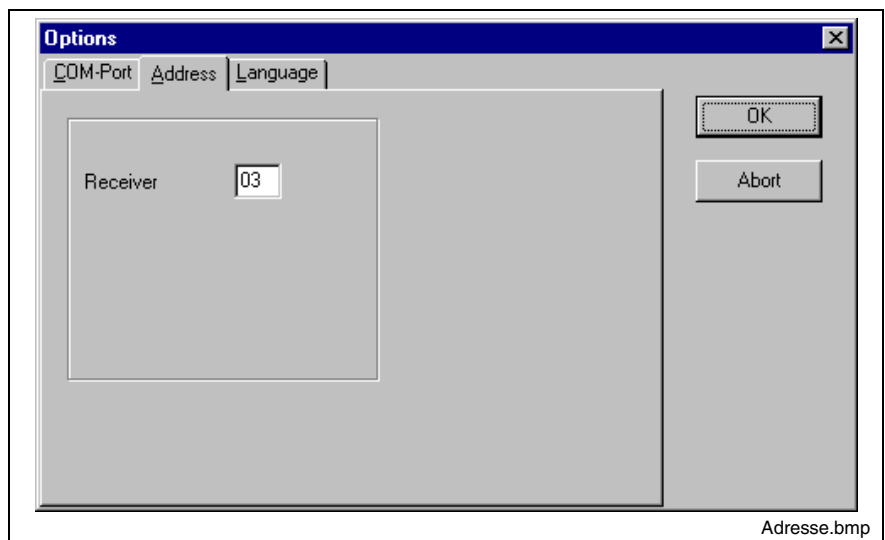

Fig. 8-6: Address selection
- Fig. 8-6: Address selection 8-5